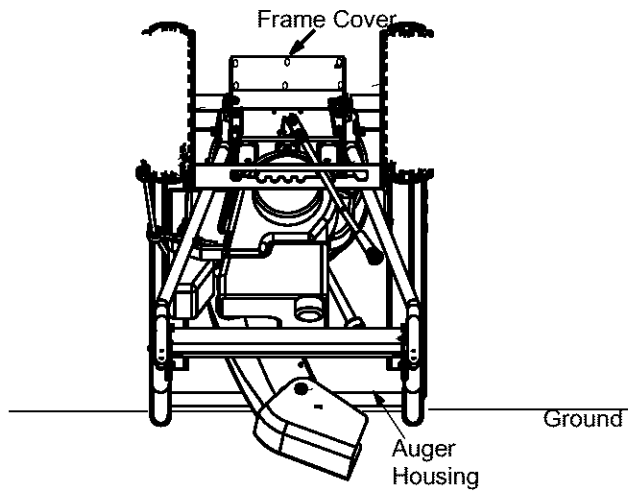

Figure 17
- Tip the snow thrower up and forward, so that it rests on the housing. See Figure 17. Remove the six self-tapping screws from the frame cover underneath the snow thrower.
1. Drain gasoline and engine oil from the snow thrower. Place plastic film under the gas cap if the snow thrower has already been operated. Tip the snow thrower so that it rests on the auger housing. See Figure 17.
2. Remove the frame cover underneath the snow thrower by removing six self-tapping screws. For location of the frame cover, see Figure 17.